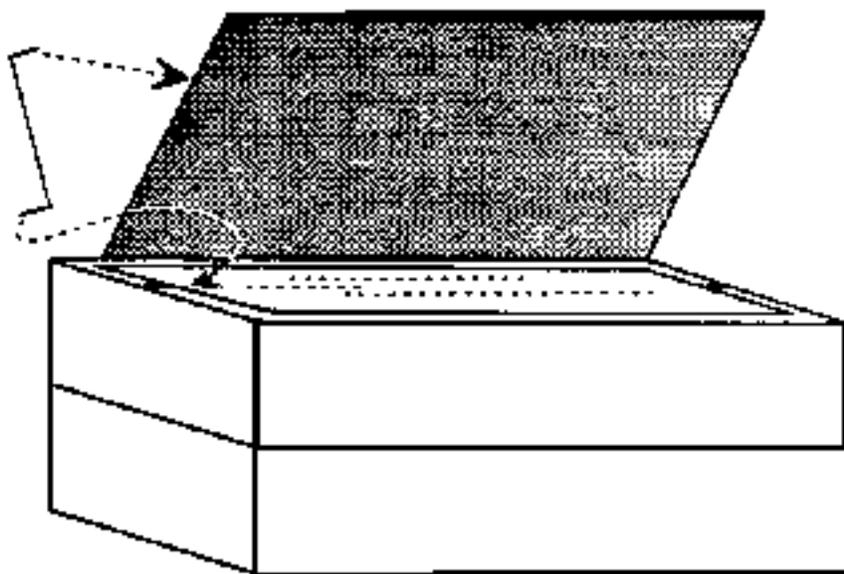

Figure 7
1. Measure the width of the walls of the base and use these measurements to calculate where to make the cuts that form the reflector in Figure 7. Only cut on three sides. The reflector is folded up using the fourth side as a hinge.
3. Bend the ends of the wire as shown in Figure 7 and insert these into the corrugations on the lid and on the reflector to prop open the latter.